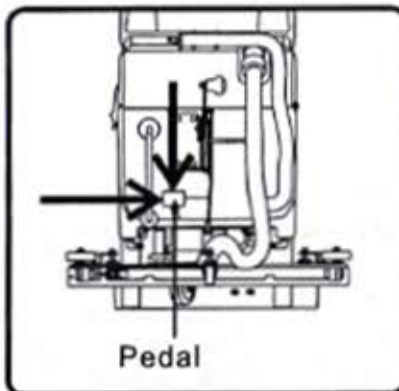
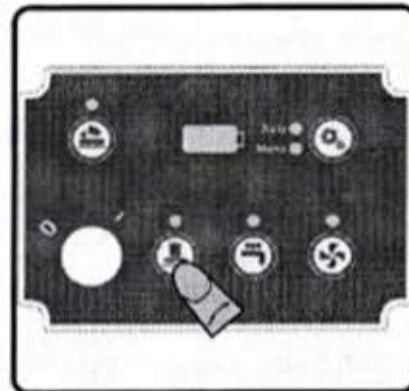

fig.6
fig.7 Control panel
2. Step on the pedal rightly to lower the brush (fig.6). After that, switch on the key switch and press the scrubbing/assembling button to assemble the brush (fig.7).